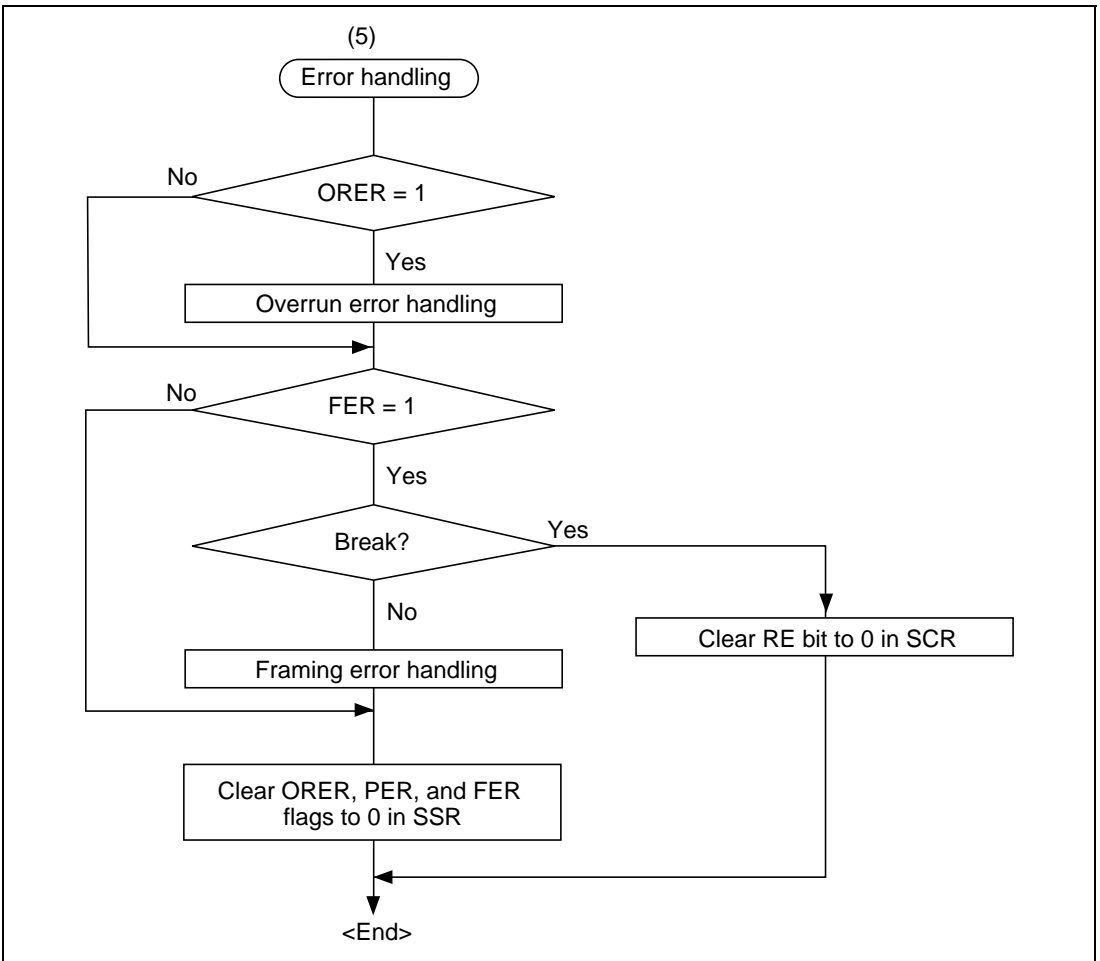

Figure 13.12 Sample Flowchart for Receiving Multiprocessor Serial Data (2)
- Receiving Multiprocessor Serial Data: Figure 13.12 shows a sample flowchart for receiving multiprocessor serial data and indicates the procedure to follow.